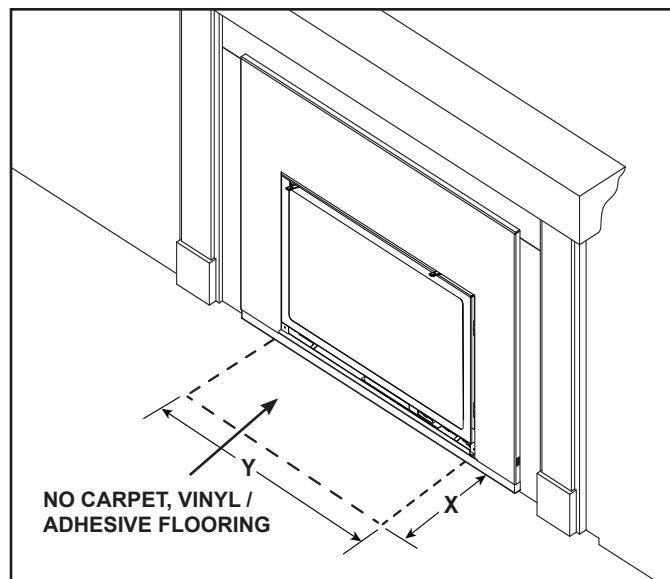

Figure 3.16 Hearth - Combustible Material Exception
- Combustible flooring may be located in front of the appliance. Exception - no carpet, vinyl / adhesive flooring. See Figure 3.16.